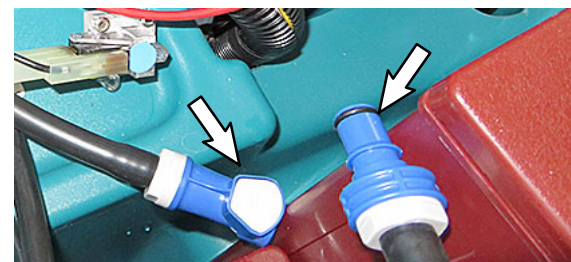

Fig. 10
12. Connect the ABW hose assemblies (Figure 10).